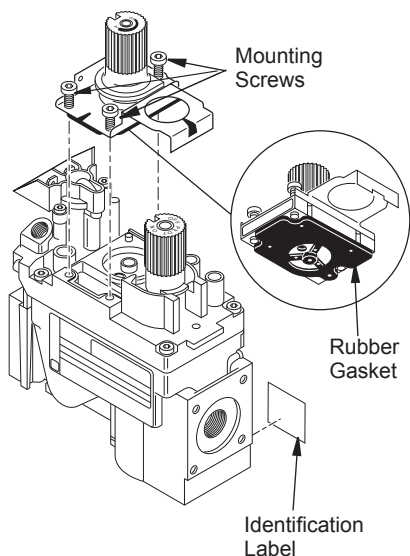

Figure 5 - Installing Pressure Regulator Assembly
2. Insure that the rubber gasket is properly positioned on the new pressure regulator assembly. Install the NG pressure regulator assembly to the valve using the new mounting screws supplied with the kit. Tighten screws securely (approximately 25 in-lbs.) (see Figure 5, page 3).
3. Install the identification label enclosed with the gas valve regulator to the valve body where it can easily be seen (see Figure 5, page 3).